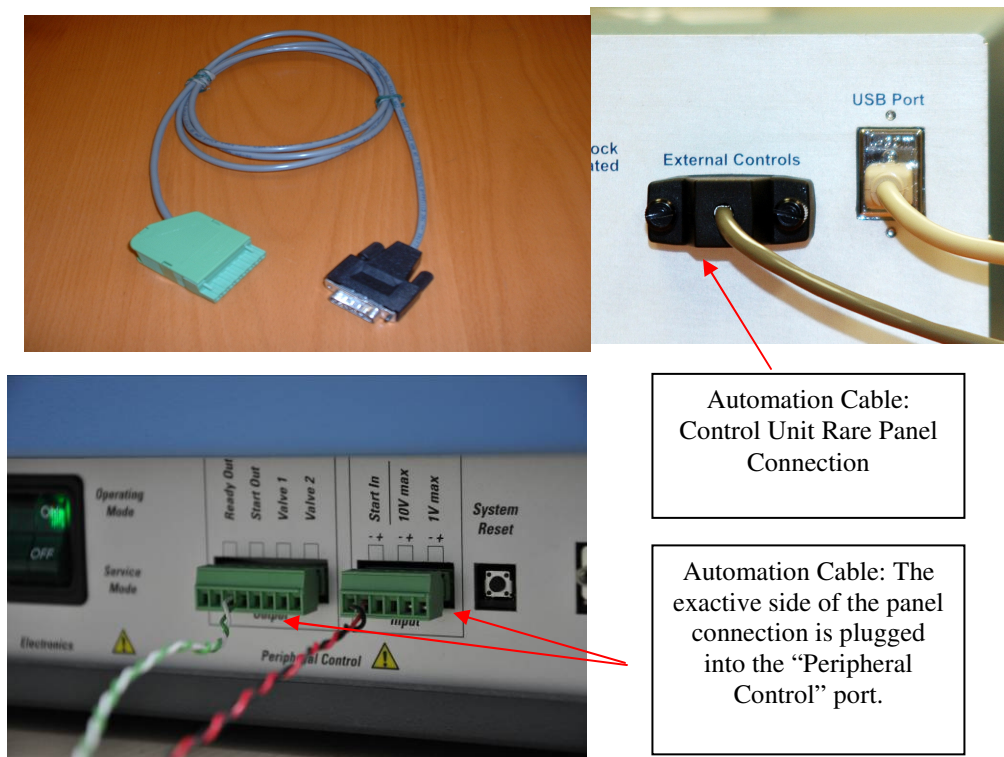

Figure 7.26 External Control Cable
Figure 7.26 shows the external control and its connection to the rear panel of the AP/MALDI's control unit and to the side panel of exactive.
The second automated mode, the external timing, enables the user to record the spectra of various individual samples; the recorded spectra are in separate files under separate user-defined names. The exactive communicates with the AP/MALDI source through exchange of the bi-directional "Start" and "Ready" signals. The AP/MALDI's external control cable connects to the rear panel through using the peripheral control port; the cable and its connection are shown in the Fig. 7.26.
4. Make changes to this page so it looks exactly like that shown in Fig. 7.26 including: